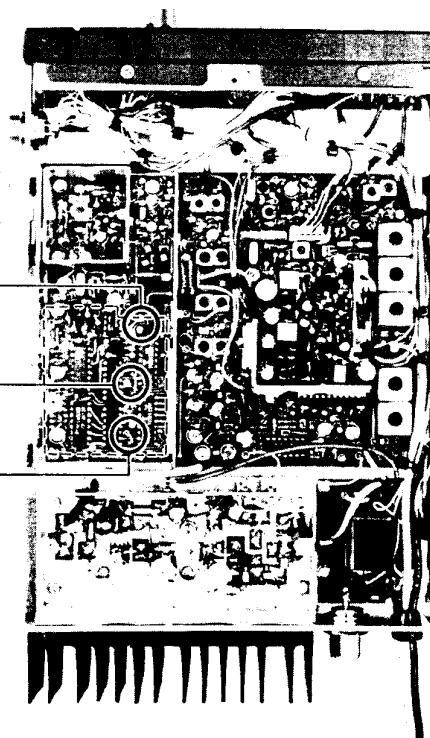

Figure 2-2
- Referring to Figure 2-2, install the jumpers as shown for the band selected. For example, if you are programming the FTC-2640 to operate within the range of 154 to 164 MHz (*154.3 to 164.3 MHz), you noted in step 1 that this is BAND C (*BAND C–12.5 kHz). So from Figure 2-2 you see that you must jumper TP₃₀₁ to TP₃₀₃, TP₃₀₆ to TP₃₀₈ and TP₃₀₄ to TP₃₀₅.
* For RCC (Radio Common Carrier) operation, install the jumpers and cut the diodes as shown in Figure 2-2 BAND E. Then program the channel frequencies according to Figure 2-6 on page 2-16.